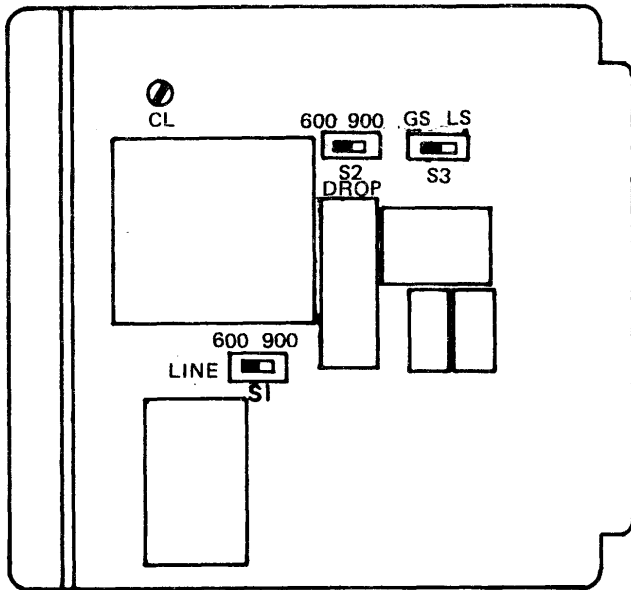

Figure 3. 7376 Switch Option Location
permits selection of either the loop-start or ground-start mode of operation. Refer to Figure 3 for an illustration of the locations of these switches.
7.04 The 7376 is provided with a screw option (CL) for use on CL loops that are greater than 1000 ohms. This screw option is located on the component side of the printed circuit board as shown in Figure 3. If the CO loop is greater than 1000 ohms, close screw option CL.